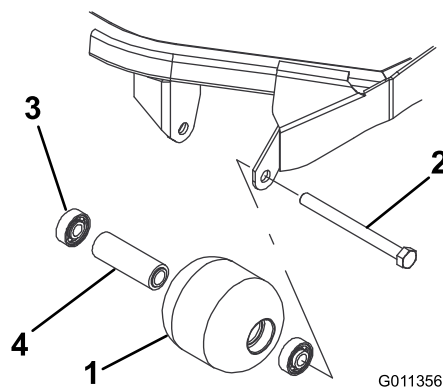

Figure 82
1. Remove the roller-mounting bolt (Figure 82).
4. Inspect the roller housing, bearings, and bearing spacer for damage (Figure 82).
1. Press the first bearing into the roller housing (Figure 82). Press on the outer race only or equally on the inner and outer race.
2. Insert the spacer (Figure 82).
3. Press the second bearing into the roller housing (Figure 82) pressing equally on the inner and outer race until the inner race comes in contact with the spacer.